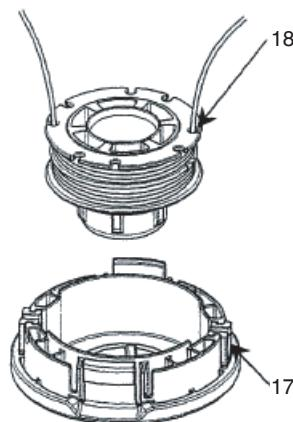

Fig. 24
- (5) Insert both loose ends of the line through the cord guide (17) when placing the reel in the case. (Fig. 24)